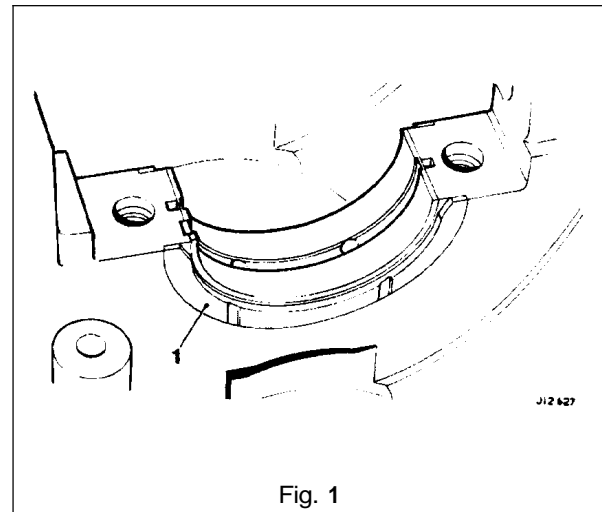

Fig. 1
- Fit Service Tool 18G 1437 (1 Fig. 1) to the crankshaft pulley (3 Fig. 1) and tighten the securing bolts (2 Fig. 1).